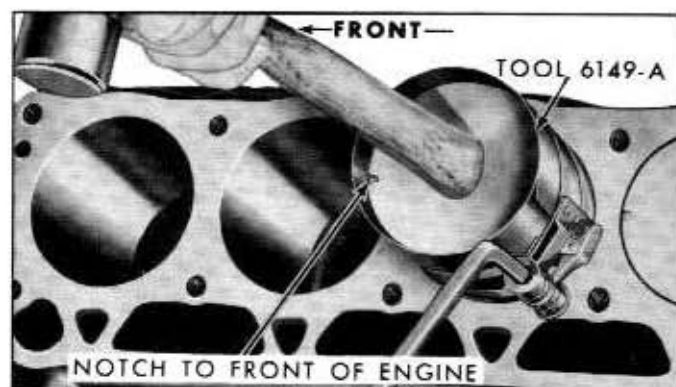

Fig. 6A-86—Piston Installation—(60C-5648)
4. Always install the piston with the notch in the piston head toward the front of the engine. Make sure the ring gaps are properly spaced around the circumference of the piston. Install a piston ring compressor on the piston and push the piston in with a hammer handle until it is slightly below the top of the cylinder. See figure 6A-86. Be sure to guide the connecting rods to avoid damaging the crankshaft journals.
8. After the piston and connecting rod assemblies have been installed, check the side clearance between the connecting rods on each crankshaft journal as shown in figure 6A-48 under "Engine Assembly" in this section of the manual. The side clearance should be .004-.011 inch (.014 inch wear limit).